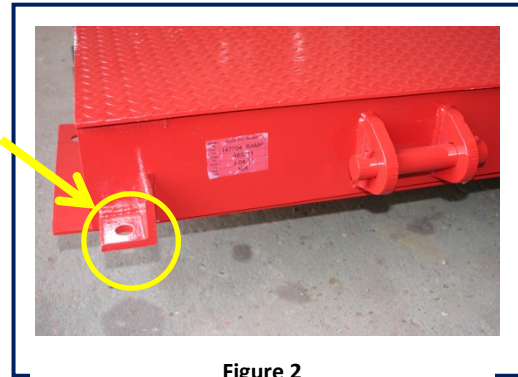

Figure 2
5. On the scale's pedestal bulkhead and the approach bulkhead, there are angle brackets that will line up with matching integrated angle brackets fixed to the approach. This is a fixture to secure the approach to the bulkheads. Identify those brackets. See Figure 2.